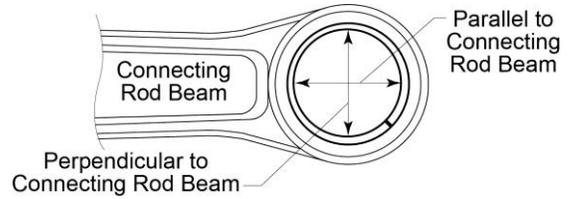

Figure 2
- C. After bushing removal, measure the inside diameter of the connecting rod both parallel and perpendicular to the connecting rod beam (Figure 2). If either inside diameter measurement is not between 1.1833 in. (30.056 mm) and 1.1848 in. (30.094 mm), discard the connecting rod and replace it with a serviceable connecting rod.